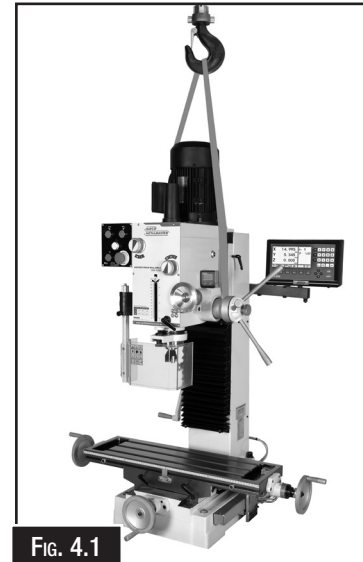

FIG. 4.1
4. Place a lifting strap under headstock, as shown in Fig. 4.1 connect strap ends to a forklift or hook, then lift and place machine on the workbench or on the optional stand.